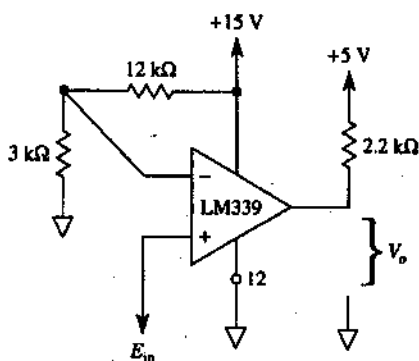

FIGURE P2-16
- 2-16. In Fig. P2-16,  $E_{in}$  is a triangle wave. The amplitude is  $-5$  V to  $+5$  V and the frequency is 100 Hz. Sketch